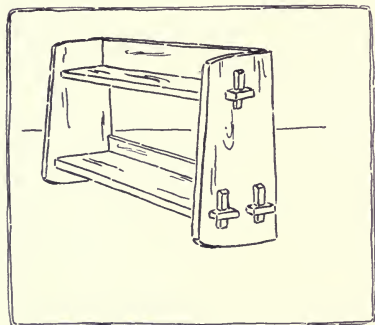

Fig. 277. Wall Book-Case.
*Wall book-shelves, Fig. 277, plate-racks, etc.,* are simply compound brackets. The shelf is the essential piece, the sides take the place of the supports, and the back is often reduced to strips merely wide enough to give rigidity.
The shelves may be either gained into the supports, Fig. 266, No. 28 or No. 29, p. 179, or a keyed mortise-and-tenon may be used, Fig. 277. In the latter case the back strip may have a short barefaced blind tenon which is mortised into